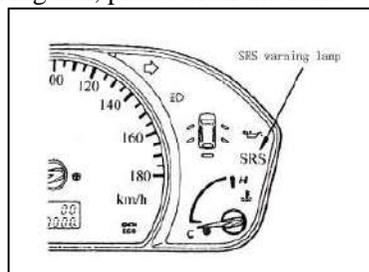

Fig.19-34
- (1) Put ignition switch on the position of ON.
- (2) Make sure that SRS alarm light is lighted in 6-8 seconds, after lasting 5seconds it will extinguish(Fig.19-34).
- (3) If light doesn't extinguish, please clear the fault.